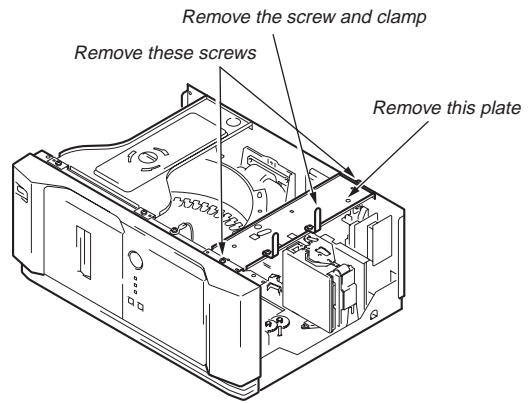

Fig. 1
1. Remove the plate shown in figure with the power OFF. (Fig.1)